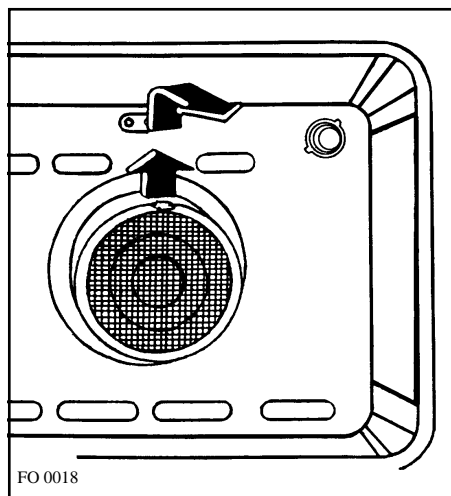

Fig. 8
- Push the protruding tongue on the filter, upward (See Fig. 8)